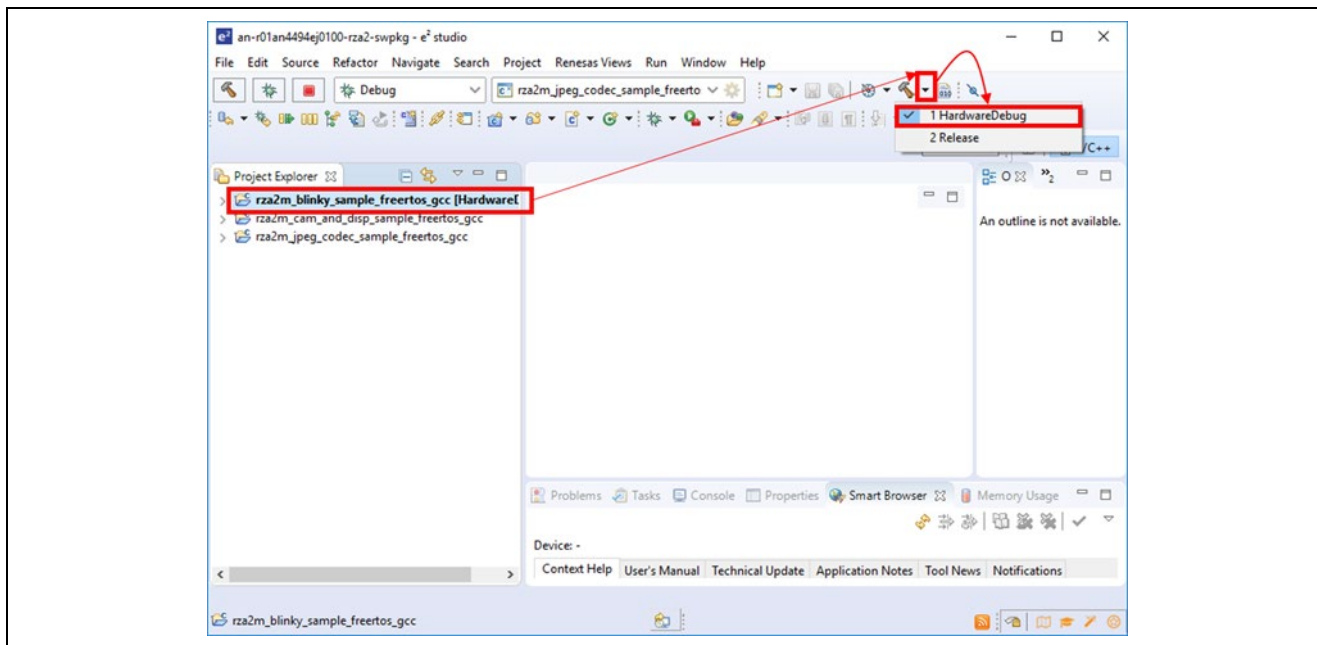

Figure 3-8 Build the target project
- Select your target project by left clicking on it, then click the arrow next to build button (hammer icon) and select 'Hardware Debug' from the drop-down menu. From next time, user can build the project by this Build button (hammer icon). This is shown in Figure 3-8